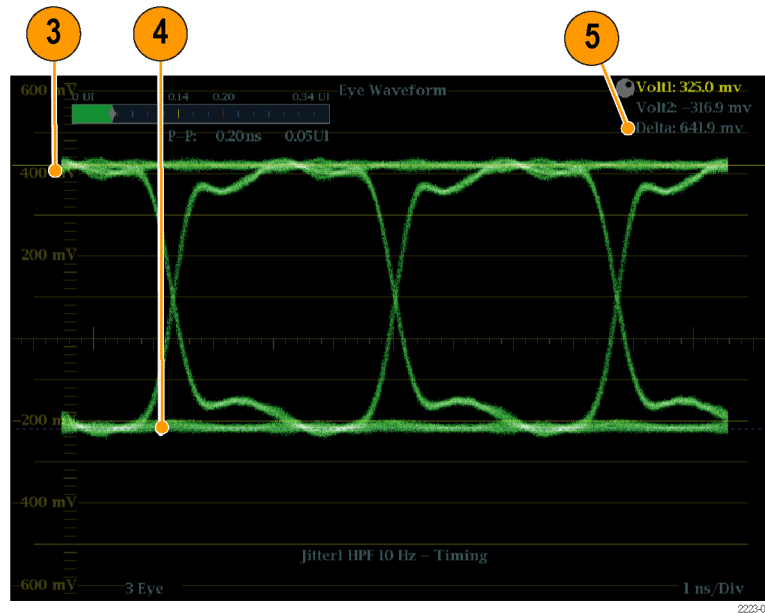

Figure 52: Eye measurement cursor placement
3. Position one voltage cursor at the top part of the waveform, ignoring any overshoot or undershoot on the rising or falling edges. (See Figure 52.)
4. Position one voltage cursor at the bottom part of the waveform, ignoring any overshoot or undershoot on the rising or falling edges. (See Figure 52.)
5. Note the amplitude of the eye waveform that is displayed in the Voltage Cursor readout. (See Figure 52.)